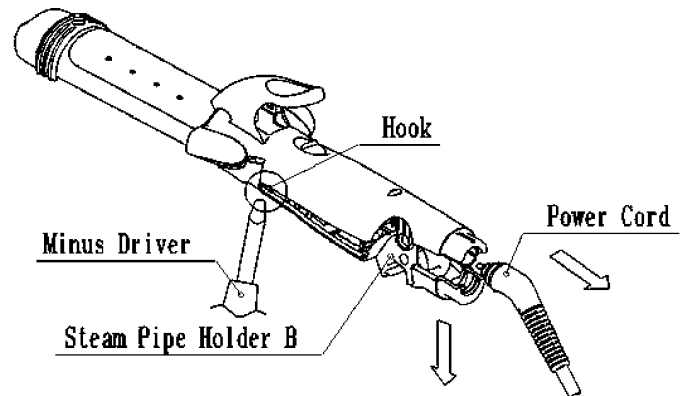

Figure 6
2. Take off Power cord and Steam pipe holder B by use Minus driver put into gap between Steam pipe and push at 2 Hooks as shown in Figure 6.